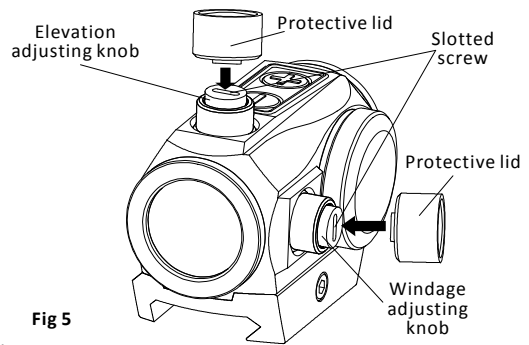

Fig 5
1. On the top of sight is the elevation adjusting knob. The windage adjusting knob is on the right side (see Fig5). The sight has been factory adjusted for approximate zero.